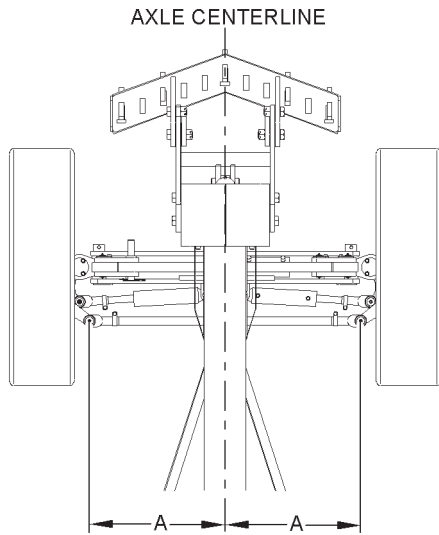

Figure 7-14. Axle Centerline to Tie Rod Alignment
4. Measure the distance between axle centerline and tie rod pin centerline (A), Figure 7-14, on each tie rod. The difference between axle centerline should be 0.0 - 0.10 in. (0.0 - 2.5 mm).